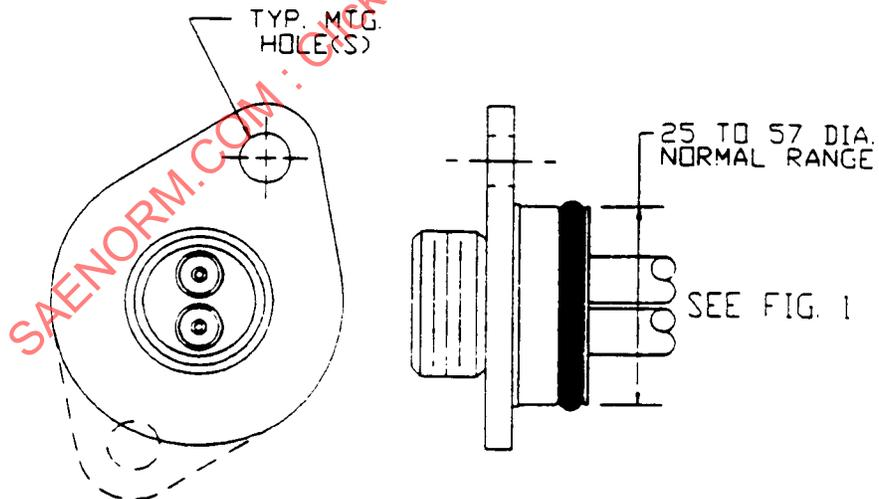

FIGURE 4—TEAR DROP DESIGN
3.4 Core Plug, Tear Drop Type—This type is designed to fit an existing core plug opening in the engine coolant system with adjacent threaded hole(s) in the engine block for accepting mounting bolt(s). See Figure 4. Sealing can be accomplished by either an O-ring against side walls or if core hole has cast surface walls, a flat gasket can be used under the mounting plate.